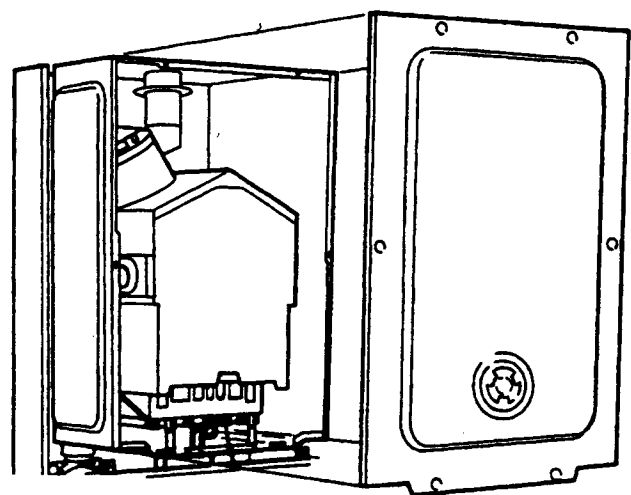

Fig. 24
Refer to fig. 24
8.5.2 Remove roomsealed front cover plate by releasing six screws (fig. 24) and easing cover off. The screws are not captive. Inspect gasket for damage. If damaged, replace.